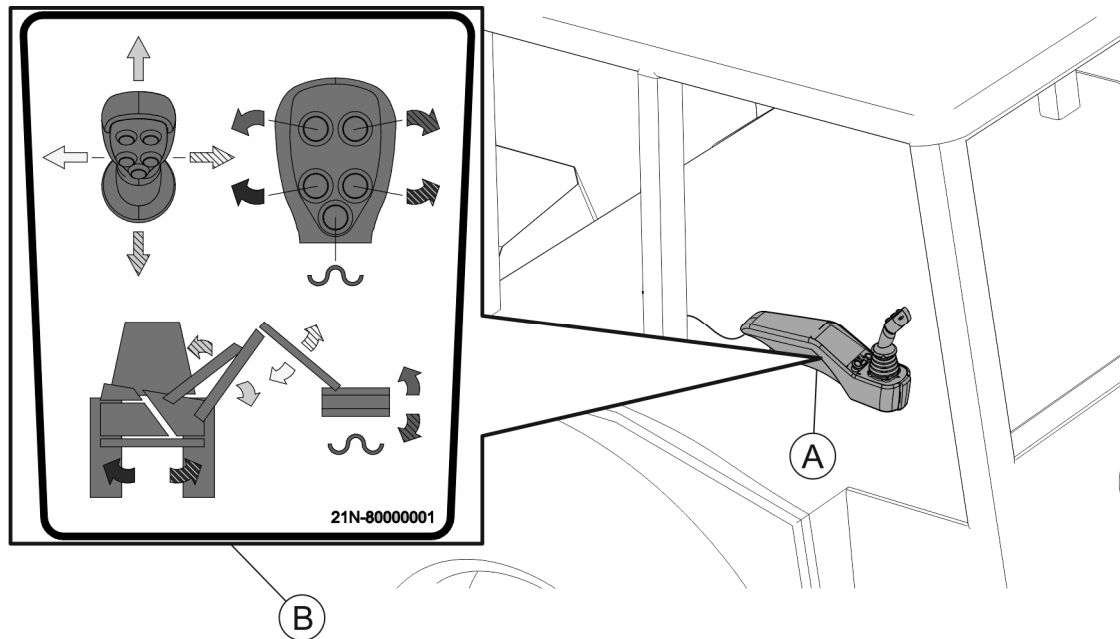

FIGURE 4.4 The control panel with joystick of WWT604D multifunction arm in the carrier vehicle's (agricultural tractor's) cab with a pictogram.
- Mount the control panel and joystick (A) (FIGURE 4.4) of WWT604D multifunction arm inside the carrier vehicle's (tractor) cab in the place which makes it possible to manoeuvre the controls freely from the seat of the carrier vehicle (tractor) operator. The control panel should be mounted in a stable manner, without weakening the protective structure of the carrier vehicle (tractor). Connect the plug of the control panel's wiring harness (A) (FIGURE 4.4) to the connection socket (4) of the multifunction arm's electrohydraulic system.
The arms of the multifunction arm and the working head are controlled by means of the control panel with joystick inside the carrier vehicle (tractor) (FIGURE. 4.4).